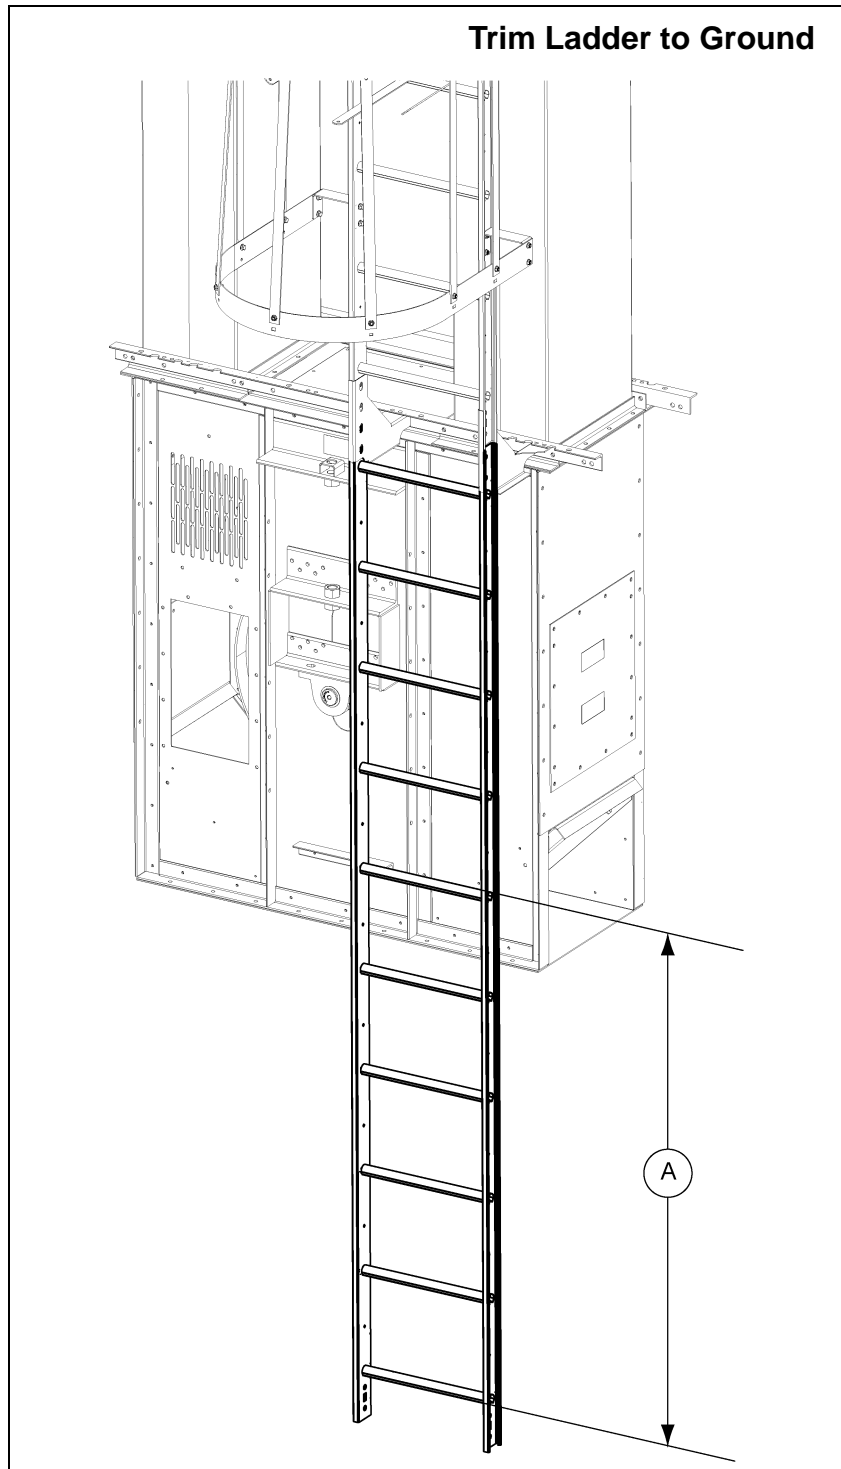

Figure 6E
1. Trim a 10' ladder section to sit so that the first ladder rung is 12" from the ground. *(See Figure 6E.)*